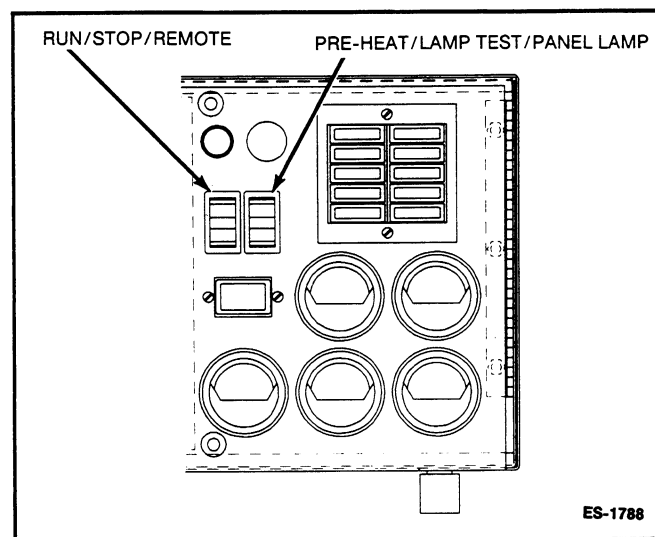

FIGURE 4-3. FAULT LAMP CHECKS
**Fault Lamps:** With the generator set stopped (Run / Stop / Remote switch in STOP position), actuate the Lamp Test switch. Verify that all indicator lamps are on and then place switch at Panel Lamp (see Figure 4-3).